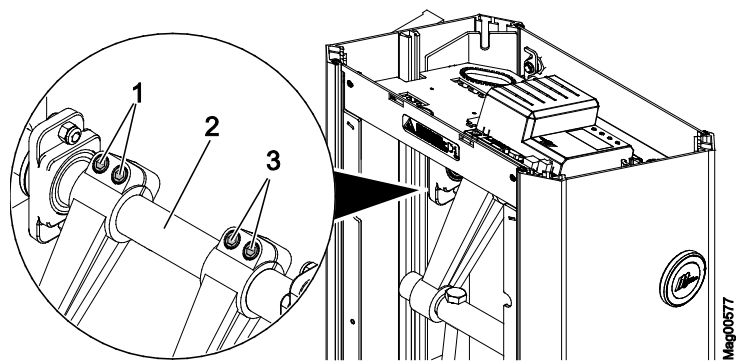

Fig. 28: Access XL2 – Loosen hexagon socket screw
→ For Access XL2 see page 69, Fig. 28.
- For Access XL2 see page 69, Fig. 28.